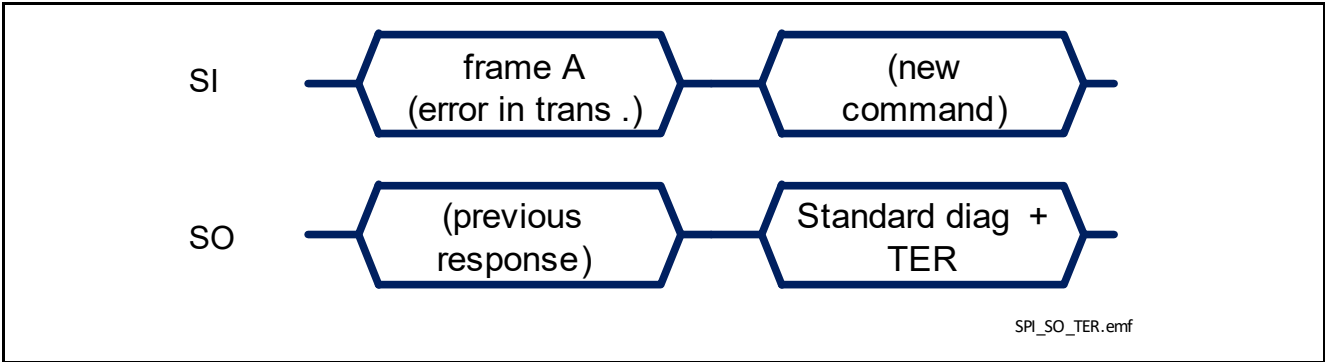

Figure 42 TLD5542-1 response after an error in transmission
- in case an error in transmission happened during the previous frame (for instance, the clock pulses were not multiple of 8 with a minimum of 16 bits), shown in **Figure 42**